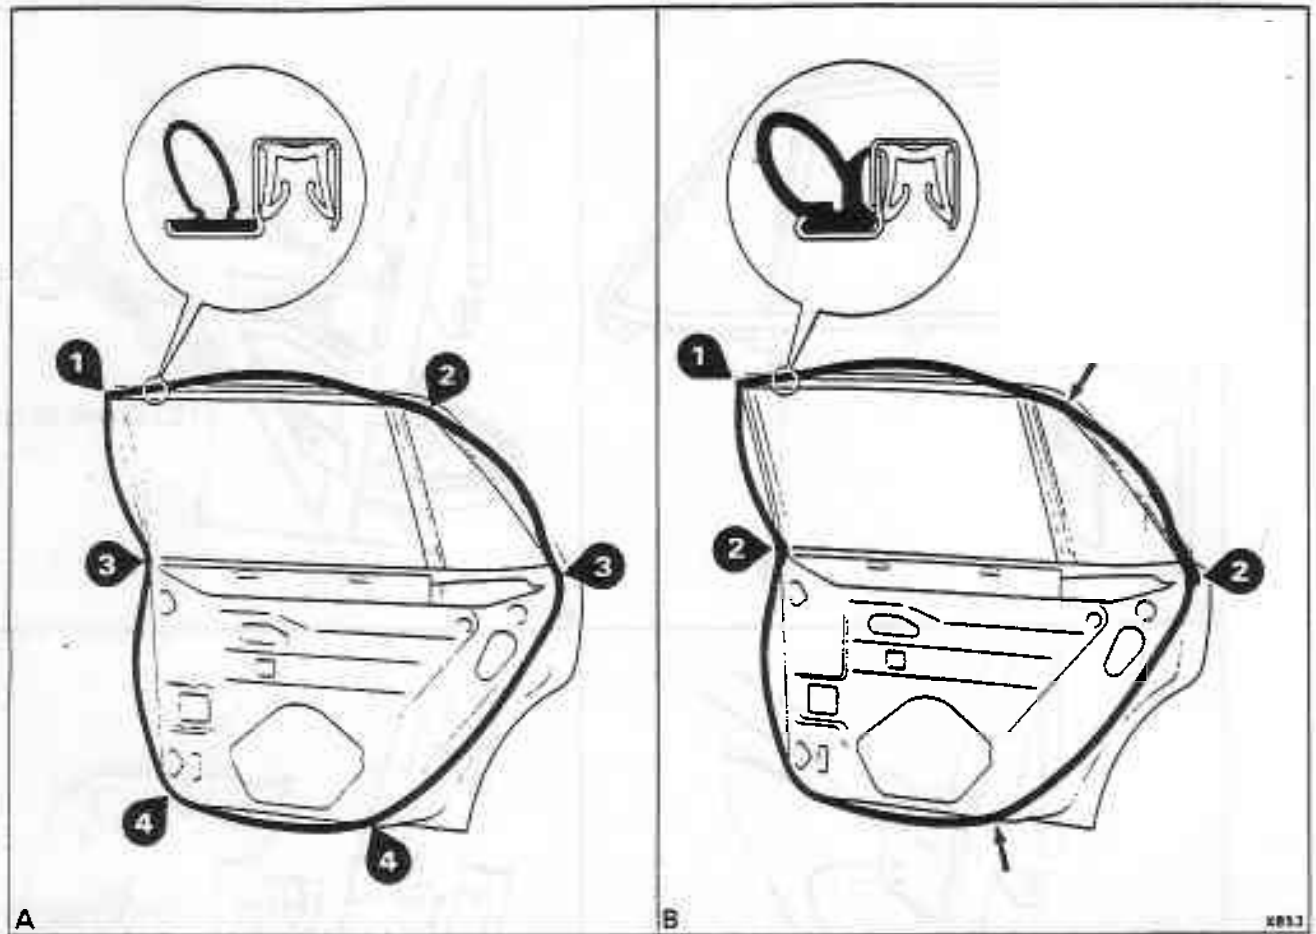

Fig. S4-11 Door to body seals
Dunlop door seals - To remove and fit (see fig. S4-11, A)
2. Fit the door seal at the points 1,2,3, and 4 shown in figure S4-11, A.
Meteor door seals - To remove and fit (see fig. S4-11, B)